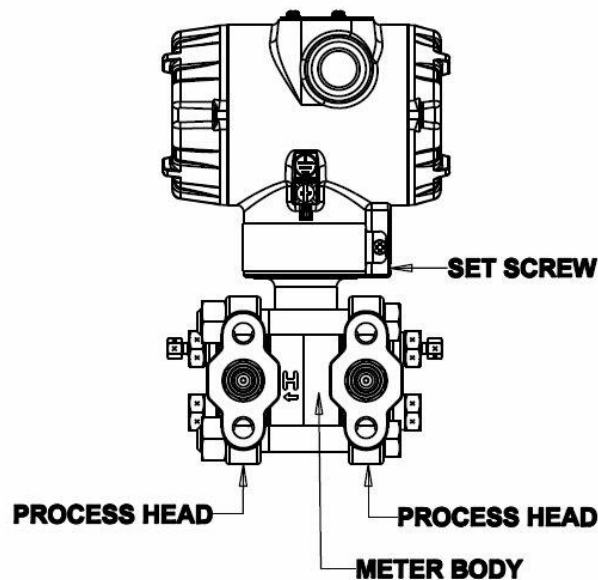

Figure 28 – Hardware Location to Remove the Meter Assembly
8. Refer to Figure 28 . Use a 2 mm hex wrench to completely loosen the set screw on the outside of the housing to permit rotating the meter body.